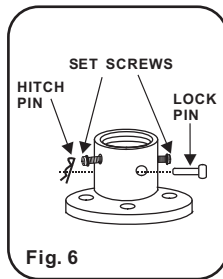

Fig. 6
Step 2. Loosen the two Set Screws and remove the Hitch Pin and Lock Pin from the coupling located on the top of the Motor Assembly. (Fig. 6)